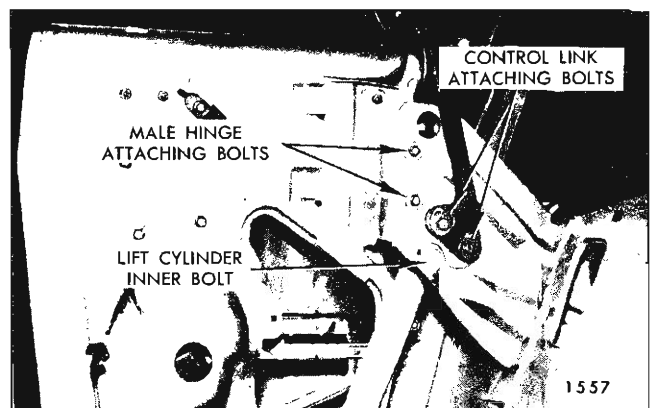

Fig. 2-I-68—Lift Cylinder Attachment
b. Install two inch length of metal tubing (1/4" O.D. x 3/16" I.D.) into center of filler plug and solder tubing on both sides of filler plug to form air tight connection. See Fig. 2I69.
d. Install opposite end of hose into a container of GM Hydraulic Brake Fluid Super #11 or equivalent. See Fig. 2I70.